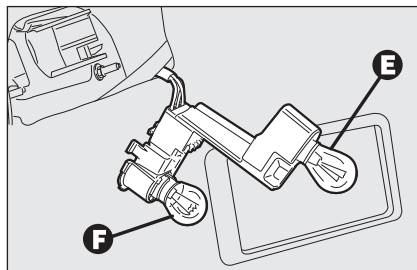

fig. 39
- remove and replace the burnt-out bulb by pressing it slightly and turning it counter-clockwise **fig. 39**: